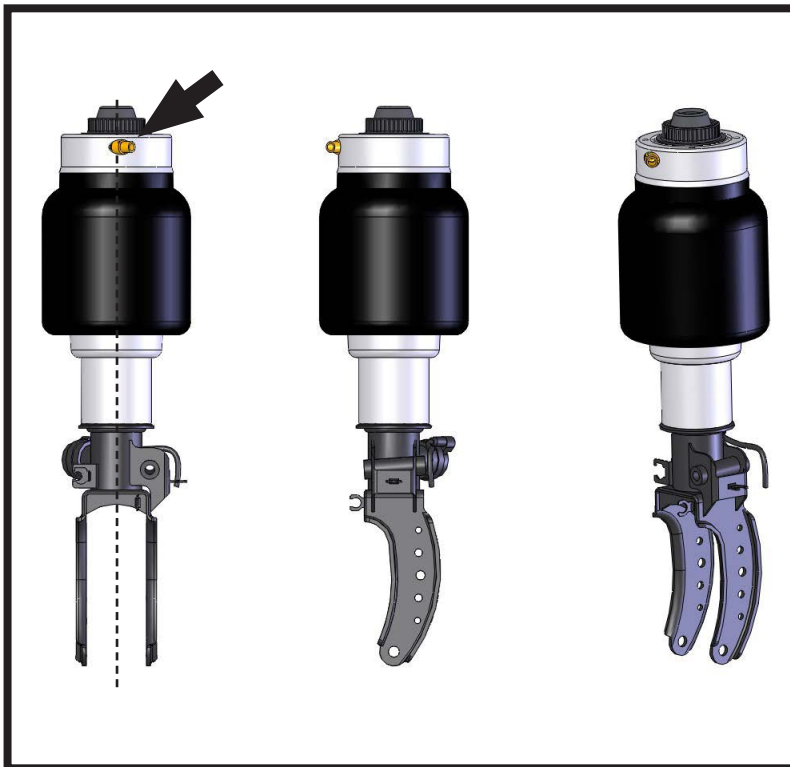

FIGURE 30-4
4. ALIGN THE AIR INLET WITH THE SHOCK FORKS (FIGURE 30-4).